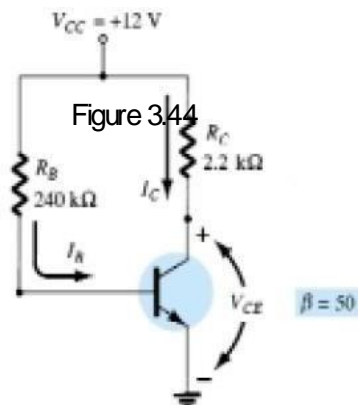

Figure 3.44
12. With reference to Figure 3.44, calculate the value of: